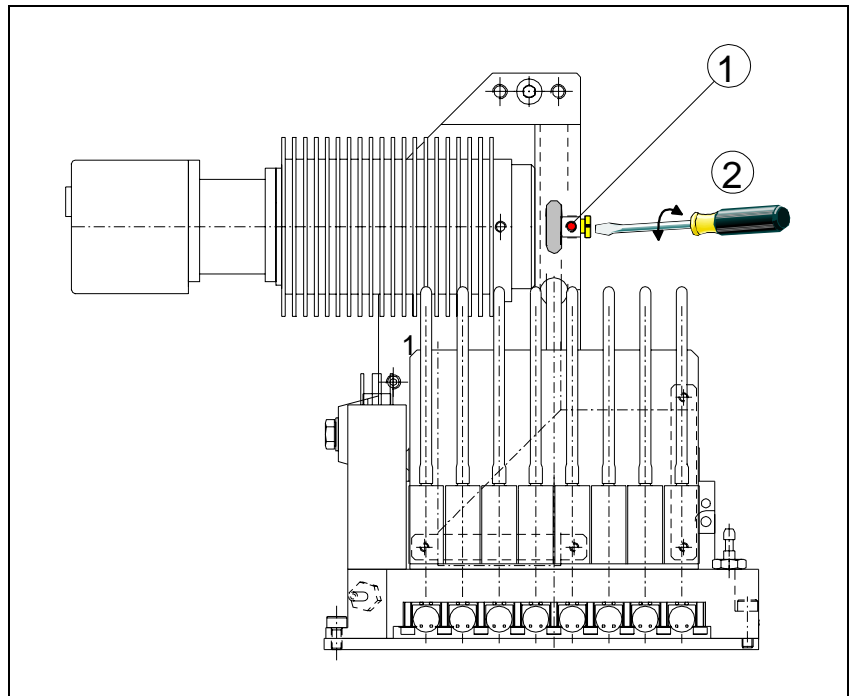

Figure 5-31. HZ Cog play adjustment
2. Loosen the locking screw ('1') in Figure 5-31).
3. Turn the eccentric adjustment screw (2) slightly to reduce (too little cog play) or increase (too much cog play) the pressure of the bearing against the gear rack.